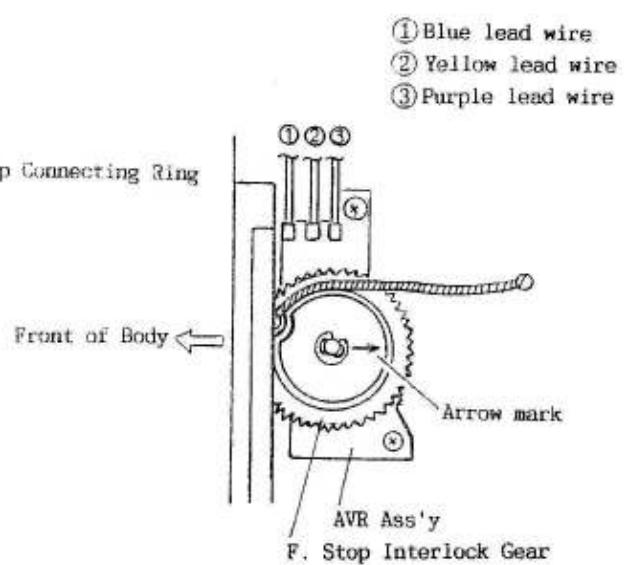

Fig.46
- 2) With the arrow mark of the F. Stop Interlock Gear positioned as shown in Fig.46, engage the F. Stop Interlock Gear with the gear of the F. Stop Connecting Ring.
- 4) Turn the F. Stop Connecting Ring clockwise once. Then turn it back again and make sure that the arrow mark on the F. Stop Interlock Gear returns to the position shown in Fig.46.